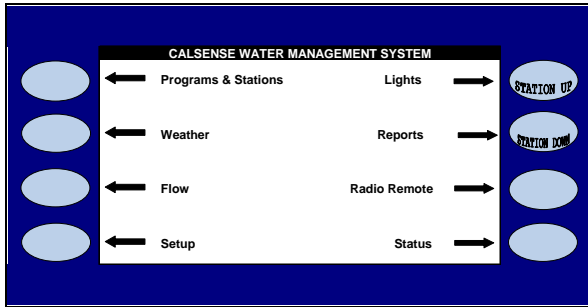

Figure 1
-  Press the **FLOW** Menu key (Figure 1).